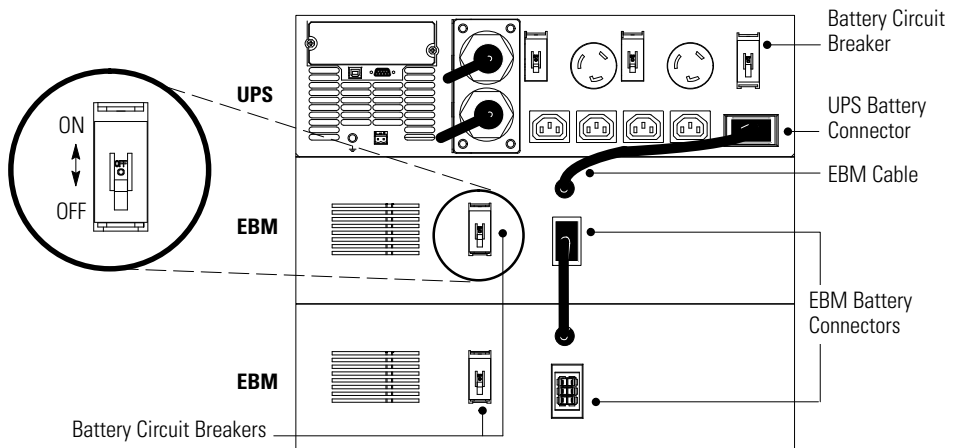

Figure 13. Typical EBM Installation (PW5125 5000 UPS Model Shown)
1. Verify that the battery circuit breaker on the UPS rear panel is in the OFF position (see Figure 13 on page 29).
1. Verify that all battery circuit breakers are in the OFF position (see Figure 13).
2. Plug the EBM cable(s) into the battery connector(s) as shown in Figure 13. Up to four EBMs may be connected to the UPS.